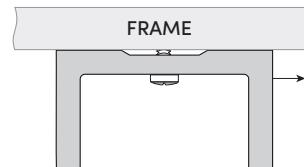

Figure 3:
- In the absence of a strike plate, align the side of the frame piece with the door-side edge of the frame on the face of the frame as shown in Fig. 3.